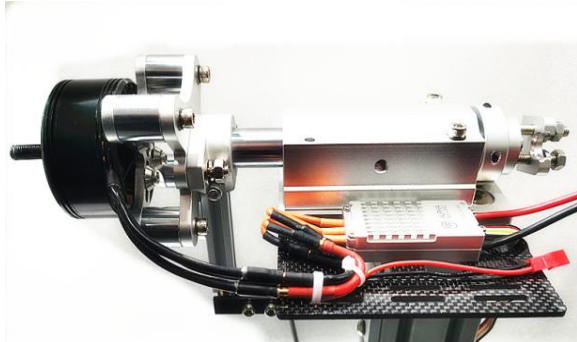
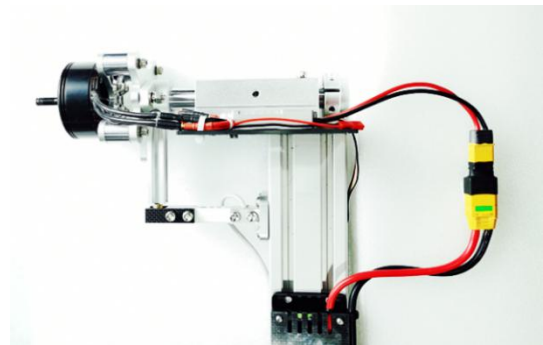

Fig. 2.2.1
Fig. 2.2.2
(1) Mount ESC on the mounting plate. Connect ESC and motor with conversion cables. Connect ESC with the power module of WF-CO-10KGF, as shown in Fig. 2.2.1 and Fig. 2.2.2: